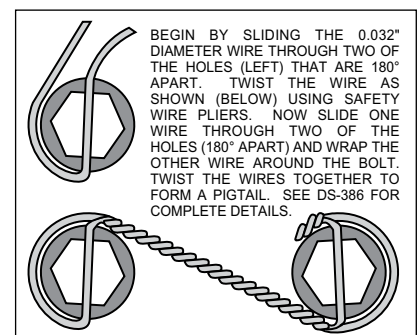

Figure 3. Safety Wire Diagram
- Identify the left and right caliper mounting brackets (1). Both brackets will be offset to the rear of the vehicle with the threaded inserts and the beveled bolt holes facing the outside of the vehicle. Apply red *Loctite*® 271 to bolt threads (2 and 5) before assembly of the caliper bracket (1) to backing plate face of spindle. Insert the two upper mounting bolts (2) and the lower mounting bolt (5) through the caliper mounting bracket (1). Place one upper mounting bracket spacer (3) over each of the upper mounting bolts (2). Slide a lower mounting bracket spacer (6) over the lower mounting bolt (5). Position the caliper mounting bracket (1) onto the spindle, slipping each of the three mounting bolts (2 and 5) through the spindle holes. The lower ball joint may have moved when the original bolts were removed. Re-alignment may be necessary for the lower bolt (5) to slide through. Install two lock nuts (4) on the upper mounting bolts (2) and finger tighten. Install one lock nut (7) on the lower mounting bolt (5) and finger tighten. Torque two bolts (2) to 47 ft-lb. Torque bolt (5) to 65 ft-lb. **NOTE:** Be sure the heads of the caliper bracket (1) insert nuts are facing outward toward the wheel.
- Install five new wheel studs (8) into the hub (9). Torque to 77 ft-lb. **NOTE:** There are two five lug patterns in the hub (5 x 4.50 and 5 x 4.75). Make sure of the correct hole pattern for the correct wheel application before installing studs into hub.
- Pack the large inner bearing cone (10) with high temperature disc brake bearing grease (available from your local auto parts store) and install into the backside of the hub (9). Install the grease seal (11) by pressing into the backside of the hub (9).
- Attach rotor adapter (12) to rotor (13) using six bolts (14). Torque bolts to 180 in-lb. Safety wire bolts (14) using standard 0.032 inch diameter stainless steel safety wire as shown in Figure 3. Please refer to Wilwood's data sheet DS-386 (available at www.wilwood.com/Pdf/DataSheets/ds386.pdf) for complete safety wire installation instructions. **NOTE:** The flat side of the rotor (13) lugs face toward the rotor adapter (12) with the dished side of the rotor adapter (12) facing away from the rotor (13).